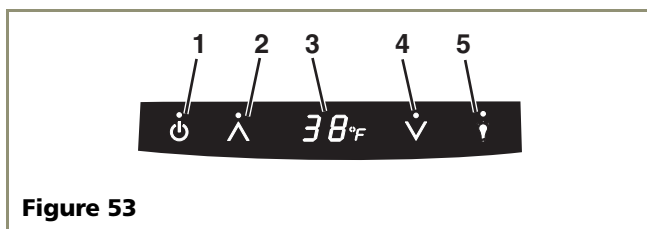

Figure 53
3. Open the door and press the POWER icon (see **Figure 53, 1**) (**Page 23**) on the display panel until OFF is displayed.
3. Open the door and press the POWER icon (see **Figure 53, 1**) (**Page 23**) on the display until OFF is displayed.
Once installation and leveling is complete, the unit is ready for initial start-up and operation. The display panel is located inside the unit, on the top of the refrigerator side (see **Figure 53, 1**).
3. Press the POWER icon (see **Figure 53, 1**) and hold for approximately five seconds until the °F symbol flashes and release. The water fill valve will energize and fill the water reservoir. The water fill valve shuts off after approximately 180 seconds (3 minutes). The compressor begins to operate.
The CLRCO2175 display (see **Figure 53, 3**) will show the set-point temperature (38°F) when the unit is on and will show OFF when the unit is off. The CLR2160 display (see **Figure 53, 3**) will show ICE when the unit is on and will show OFF when the unit is off.